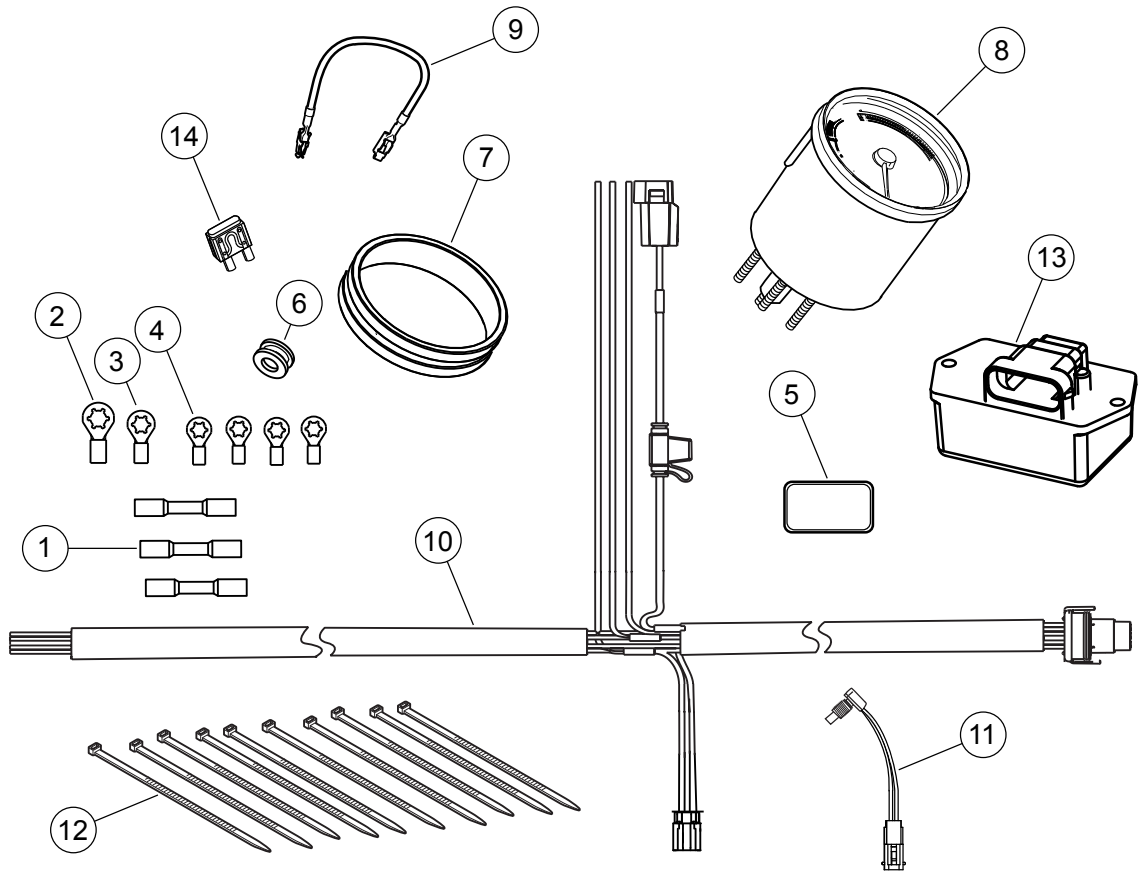

Figure 16. Service Parts: One and One-Half Inch Shift Gauge
- See Figure 16. Lubricate the conduit with soap and water and pull the wires and conduit through the housing grommet (6).
- Crimp the #6 ring terminals (4) to the leads.